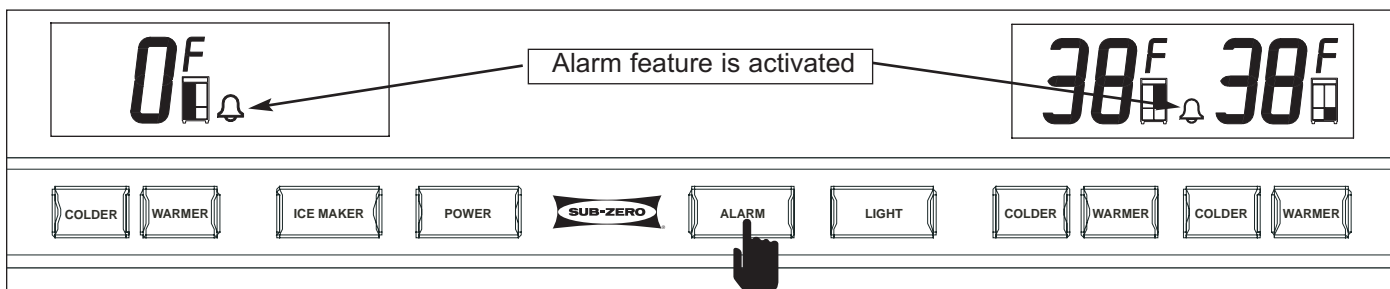

Figure 3-8. Switching Door Ajar Alarm ON or OFF - Press the ALARM Key
All units are equipped with a door ajar alarm feature. To enable the door ajar alarm, press the ALARM key on the control panel (See Figure 3-8). The bell icon appears in both User Displays indicating the alarm is enabled. With the alarm enabled, the bell icon will flash and an audible alarm will beep whenever a door or drawer is left open for more than thirty (30) seconds. To disable the door ajar alarm, press the ALARM key again and the bell icon disappears from the displays.